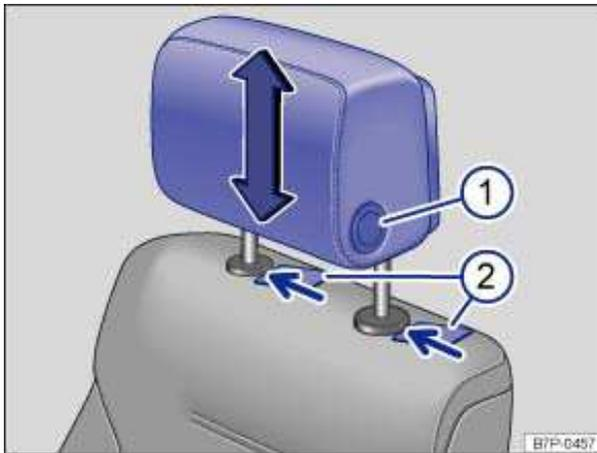

Fig. 47 Removing the front head restraints.
- Slide a flat object, such as a plastic credit CARd, underneath the right and left hand sides of the caps on the seat guide rods ⇒ fig. 47 \(2\) to unlock the head restraint.